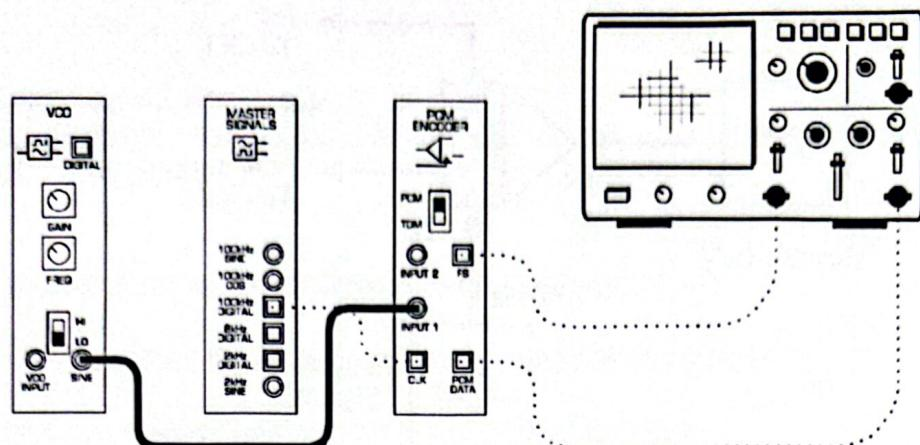

Figure 3
13. Modify the set-up as shown in Figure 3 on the next page.